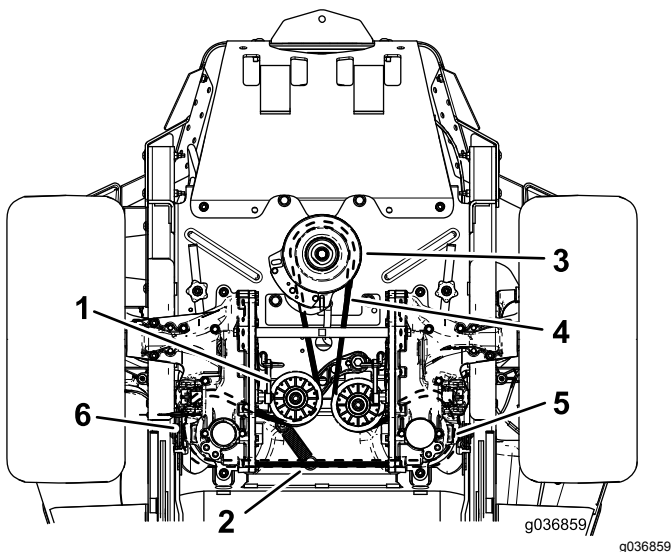

Figure 68
4. Raise the machine and support it with jack stands (Figure 68).
6. Remove the idler spring from the post (Figure 68).
8. Install the new belt around the engine pulley and the 2 hydraulic-pump pulleys (Figure 68).